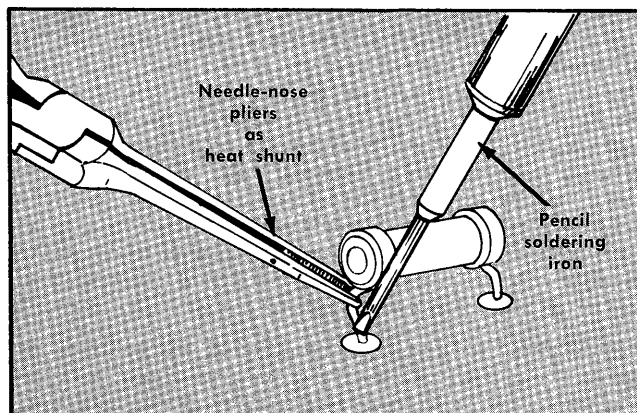

Fig. 4-3. Removing or replacing components on circuit board.
1. Grip the component lead with long-nose pliers. Touch the soldering iron tip to the lead at the solder connection. Do not lay the iron directly on the board as it may damage the board. See Fig. 4-3.